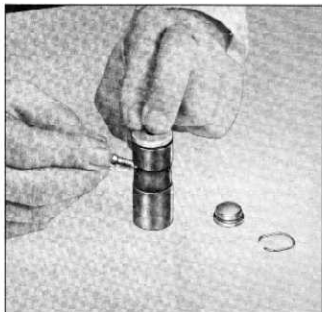

Fig. 11—Valve Lifter Assembly Tool
- Insert pin which is part of J-4274 through both holes to hold plunger down against spring tension. Remove tool from top of lifter (fig. 11).